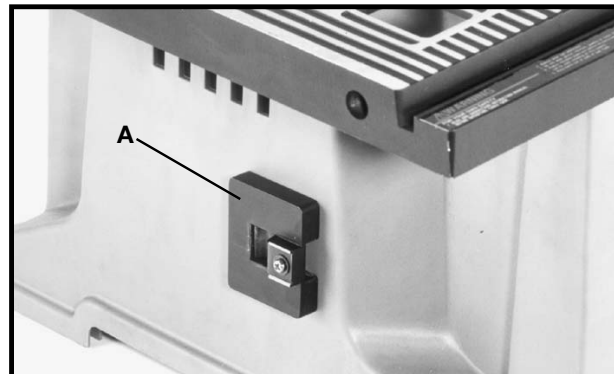

Fig. 6
2. Assemble the miter gage holder (A) Fig. 6, to the left side of the saw cabinet using the four M4.2x10mm pan head screws (B) Fig. 7, and 3/16 in. washers (C) from inside saw cabinet.